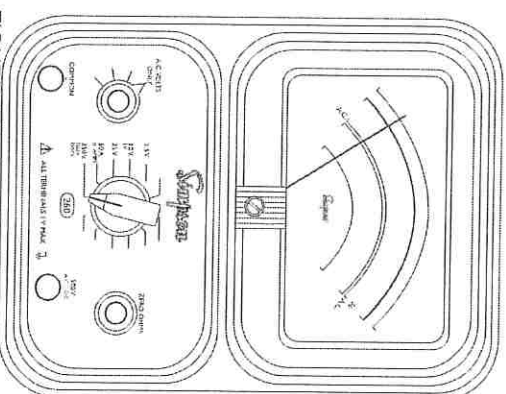

FIGURE 4-6. Jacks and Switch Positions for Measuring AC Voltage 0-2.5 Through 0-250V Ranges
- Set the function switch to AC Volts Only position (Figure 4-6).